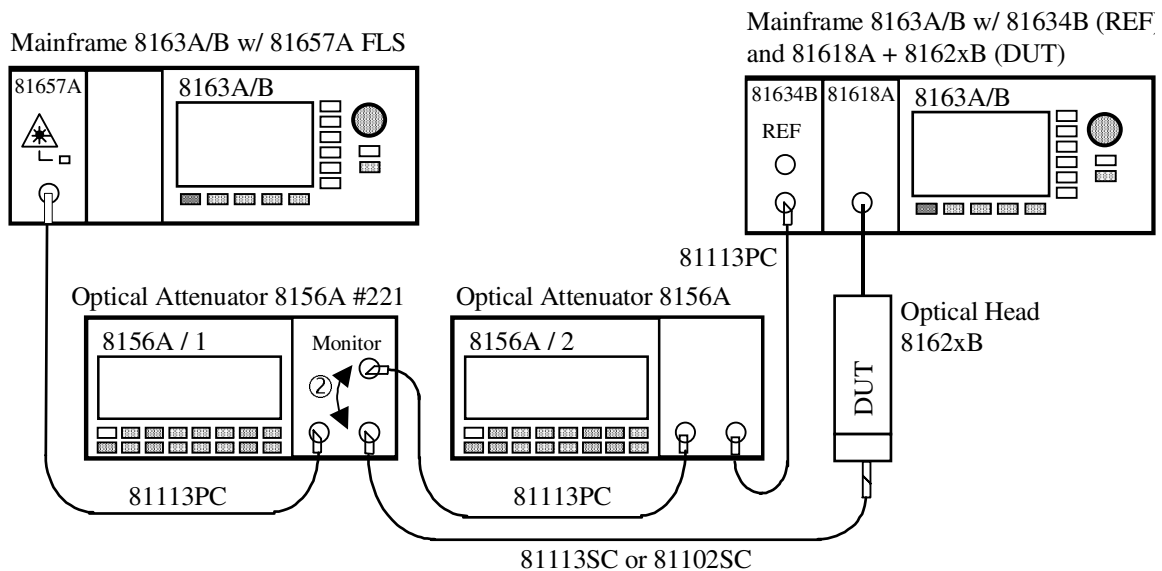

Figure 11 Measurement Setup for Power Linearity
- 3** Setup the equipment as shown in Figure 11. Disable both attenuators and enable the laser source, where the source wavelength is chosen to 1550 nm. If you are using the 81657A, move to the wavelength parameter, [λ], press *Enter*, select the longer wavelength source (1550 nm nominally), and press *Enter*.